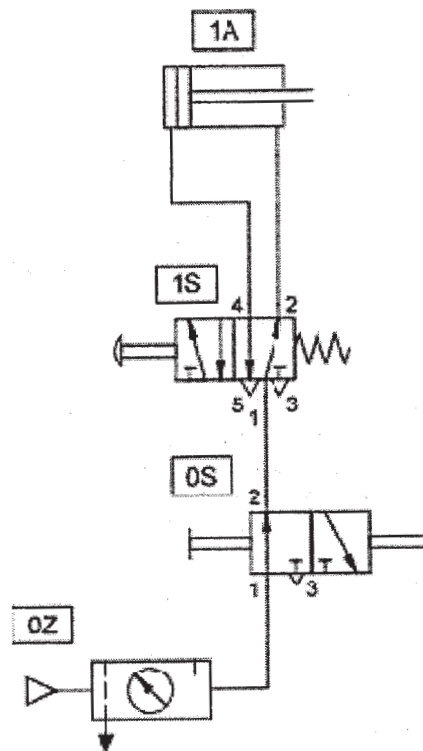

Figure 8b
- b)** Label the components and analyze the circuit shown in Figure 8b. **[6]**